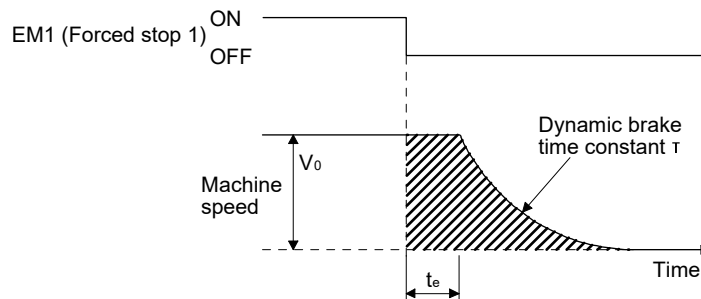

Fig. 15.3 Dynamic brake operation diagram
Fig. 15.3 shows the pattern in which the servo motor comes to a stop when the dynamic brake is operated. Use equation 15.1 to calculate an approximate coasting distance to a stop. The dynamic brake time constant τ varies with the direct drive motor and machine operation speeds. (Refer to (1) (b) in this section.)